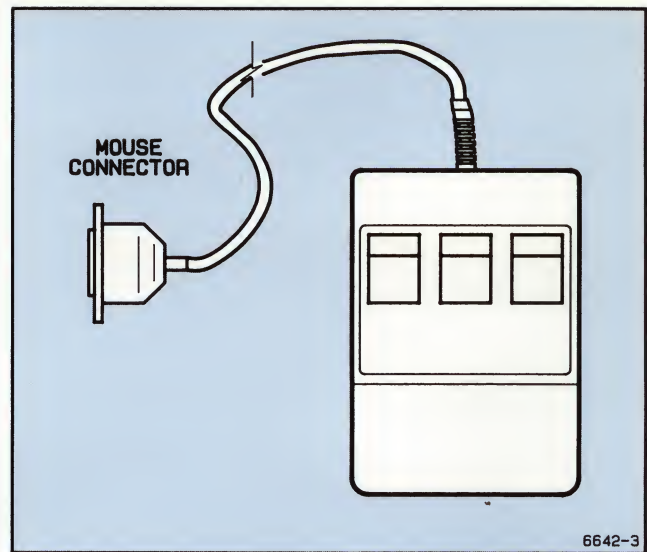

Figure 2-8. Mouse.
3. If you have the optional mouse (as shown in Figure 2-8), install the mouse's rubber ball by twisting open the round cover on the bottom of the mouse, placing the ball in the opening, and twisting the cover back on until it snaps in place.